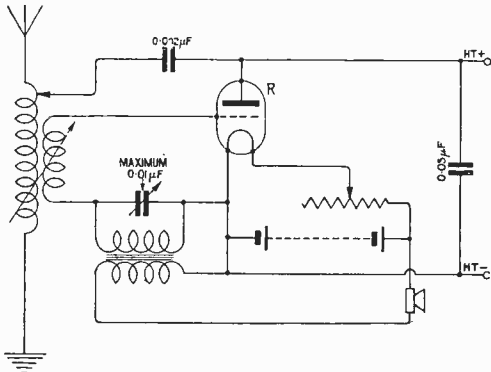

Fig. 6. Low Power Transmitting Circuit. A lead must be taken from LT—to Earth.
"C.H.B." (Fleetwood).—(1) A satisfactory form of three-valve unit receiver is shown in Fig. 6, page 809, September 16th issue, in which however, you should note that reaction back to the aerial tuning circuits is no longer permitted. The reaction coil should be coupled back to the H.F. transformer shown on the first panel. (2) The addition of two extra valves is advised. If only one is used it should be preferably employed as H.F. (3) There is no difference between an L.F. and an audio-frequency transformer.
"T.P." (Fulham).—Your diagram is not correct, and we suggest you make use of a simple telephony transmitting circuit before experimenting with a combination of 4 valves. If you have not had a good deal of experience with transmitters, you would find it very difficult indeed to secure satisfactory results with a circuit connected up on the principle of your sketch. A simple circuit is shown in Fig. 6. We recommend you to read "The Wireless Telephone: What it is," by Coursey.